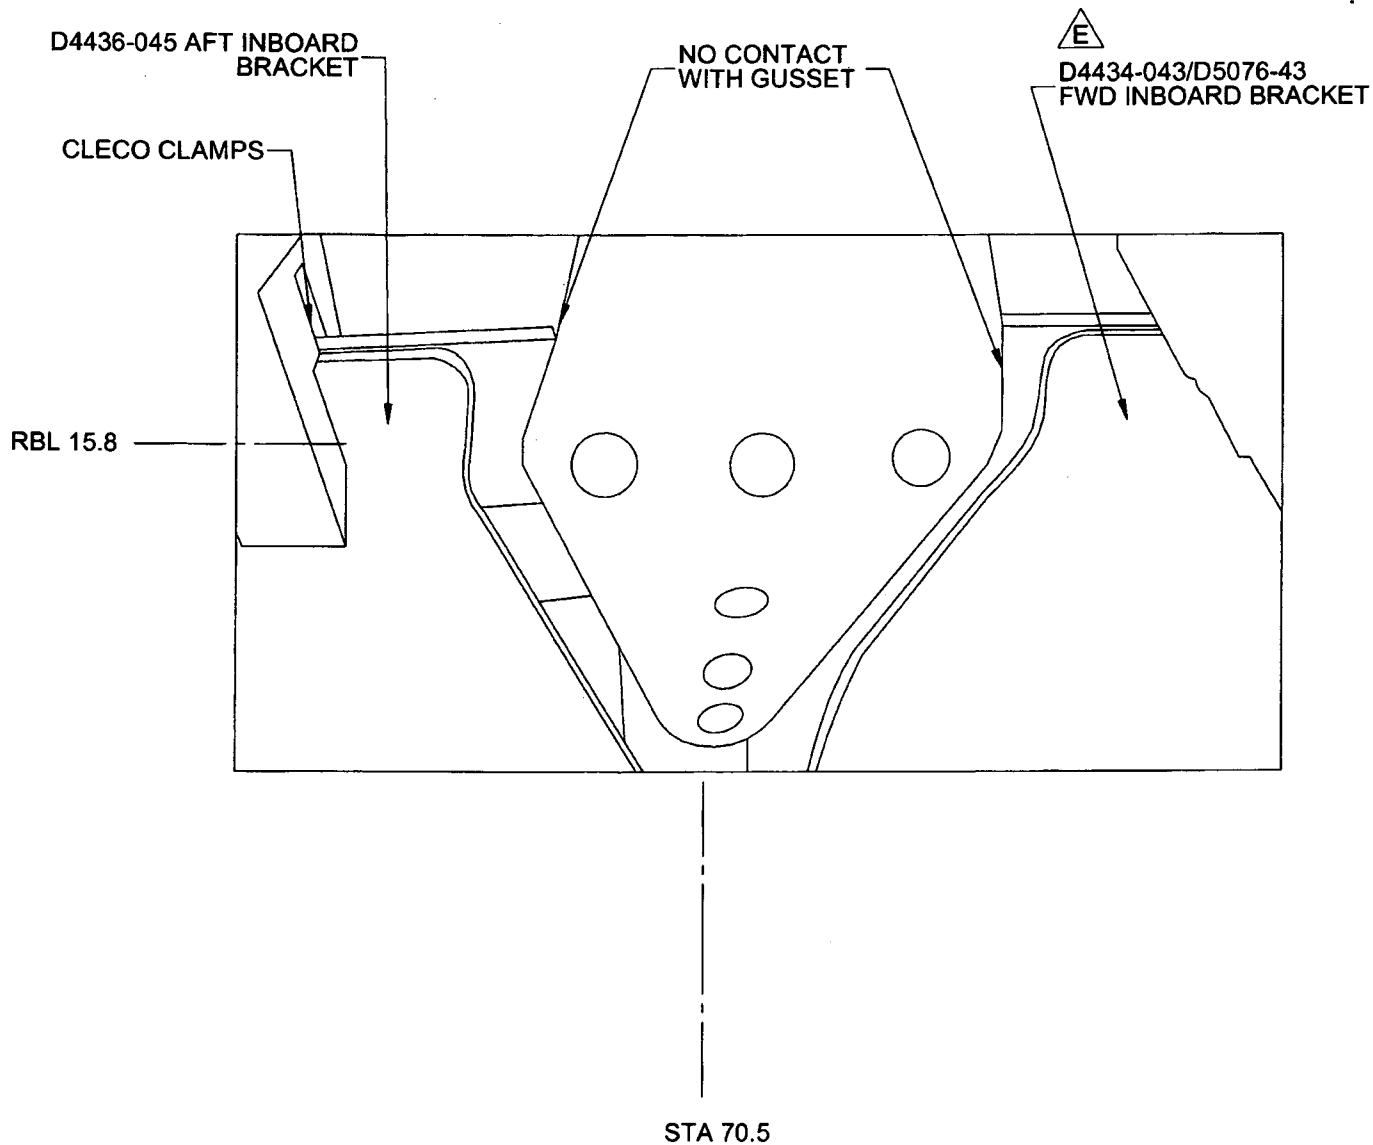

Figure 5. D4436-045 & D4434-043/D5076-043 Brackets Installation
4.2 Temporarily install D4434-043/D5076-043 Fwd Inboard Bracket and D4434-045 Fwd Outboard Bracket using clecos and cleco clamps. Confirm there is no contact between D4436-045 Aft Inboard Bracket and D4434-043 /D5076-043 Fwd Inboard Bracket and main beam gusset as shown in Figure 5.